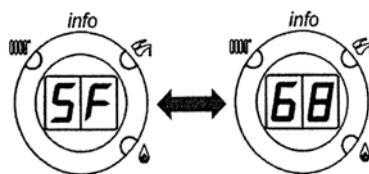

Fig. 29
**Note: LEDs 2 and 3 (figure 29) flash alternately and the display alternates the message "SF" and the boiler output temperature about every five seconds (figure 29).**